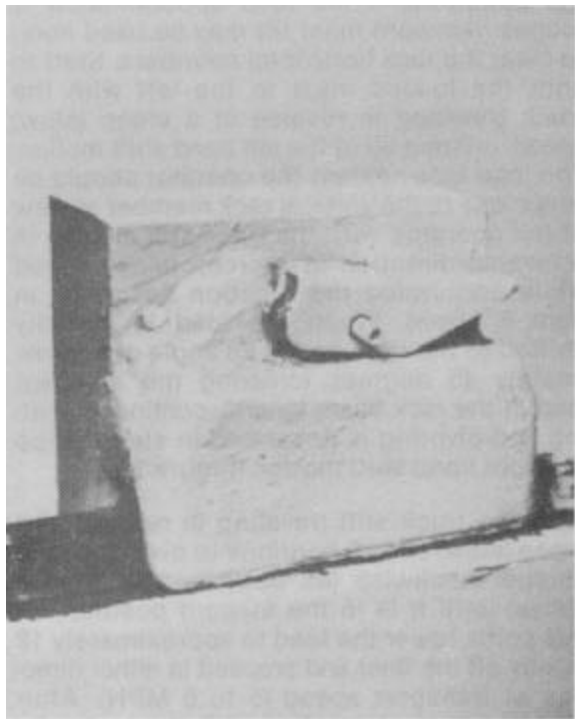

Figure 1-21.
3. Secure the fork position on the fork carriage bar by tipping the latch over and down. The keeper pin must fall into one of the notches on the top of the fork carriage bar (Fig. 1-21).